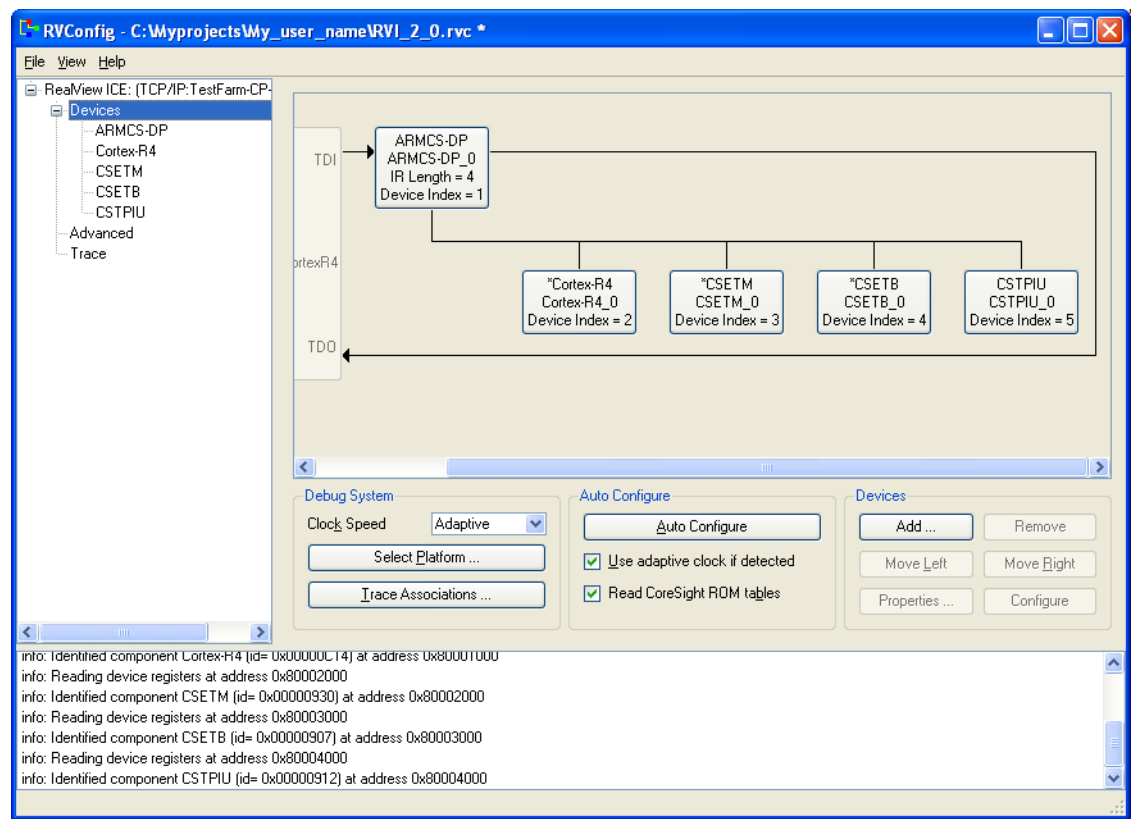

Figure B-6 RVConfig utility
3. Select **Configure...** from the context menu to open the RVConfig utility. Figure B-6 shows an example: